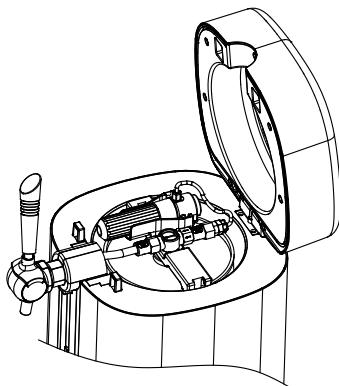
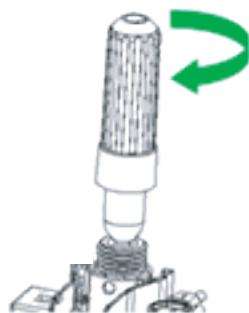

Figure 14
Figure 16
4. Turn the pressure relief valve assembly from the inside of the top cap assembly to the outside at an appropriate angle, the maximum angle should not exceed 90 degrees (as shown in Figure 14). Then unscrew the cylinder sleeve, insert a 16g CO2 cylinder (3 CO2 cylinders attached) into the cylinder sleeve (as shown in Figure 16) and then carefully and quickly tighten the cylinder sleeve (clockwise) (as shown in Figure 16) until you hear a "click", indicating that the cylinder seal has been pierced and the CO2 gas can flow freely. Then rotate the pressure reducer assembly upwards and snap it into the top cover assembly. If you need to replace the cylinder, follow the steps in reverse (make sure the gas has vented before replacing the cylinder).